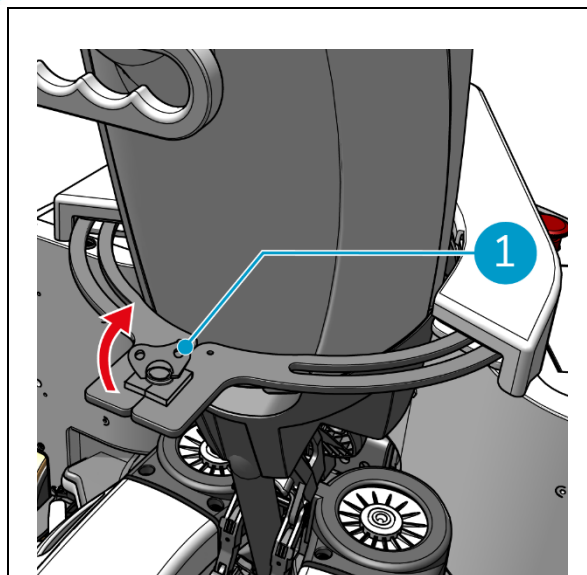

Figure 21
5. Lock the fix ring by turning the butterfly clasp (Figure 21, pos. 1) clockwise.